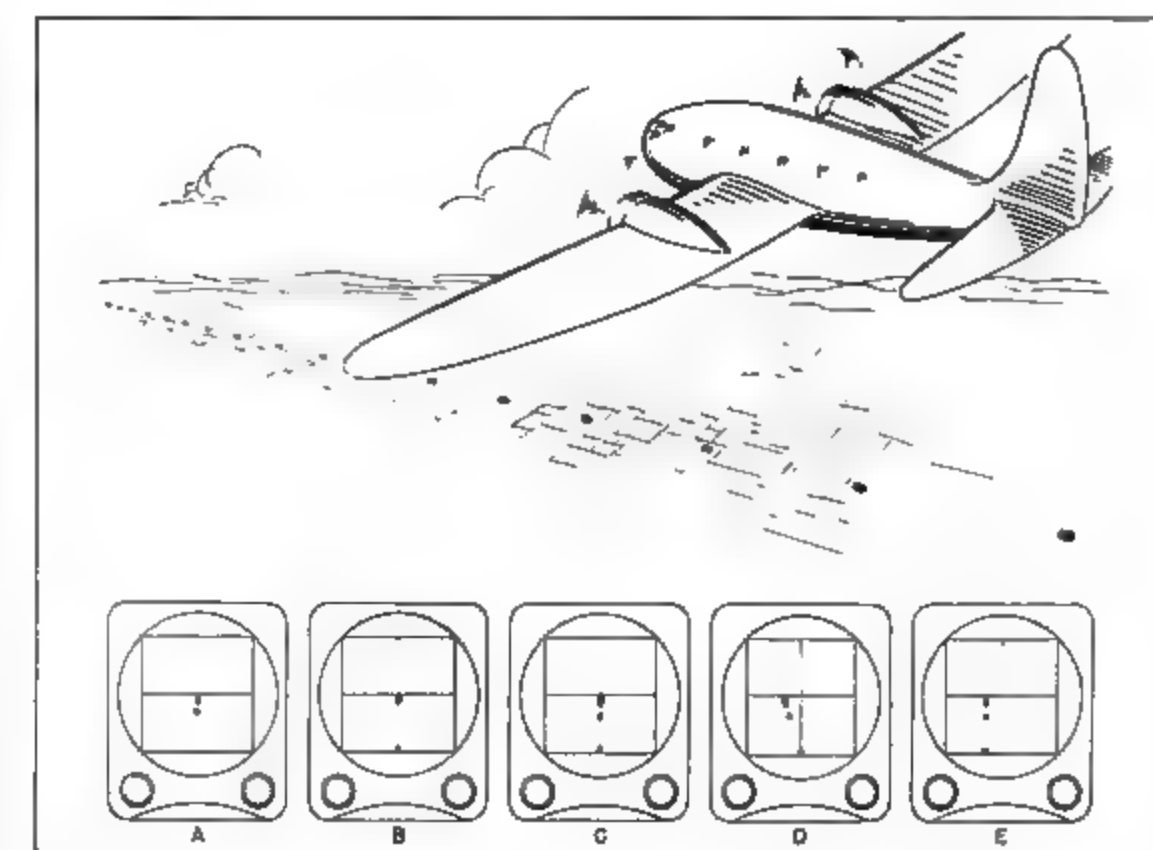

Fig. 2. Locations of dots on indicator show pilot his relation to course just as would visible beacon lights in clear weather.
of latter's lowest mechanical advantage. Fig. 2. Closeup showing main actuating cylinder (A) and dashpot bumper (D) for cushioning wheel. (AVIATION staff photos by E. J. Bulban).
Closeups of the landing gear mechanisms are shown in Figs. 2 and 3.
Fig. 2 shows how the system indicates that the pilot is on or off course when flying cross-country on instruments. Actually, the pilot follows a line of radio beacons made visible on the face of his indicator. Indications A and B show that the pilot is on course. Indication C depicts a similar picture at a higher altitude. And Indication D shows that the aircraft is over the course, but not properly headed to stay on it. The pilot simply flies his aircraft so that the row of transmitters appears along the vertical center-line of his screen. Indication E shows the pilot headed parallel to the course, but flying to one side of it.